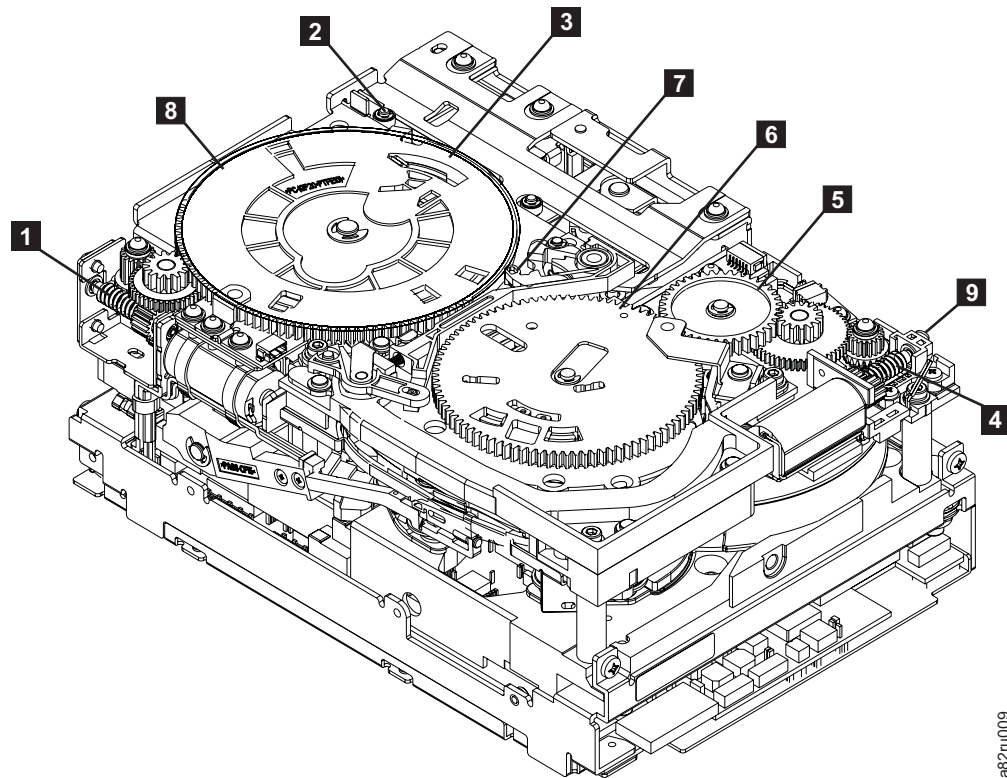
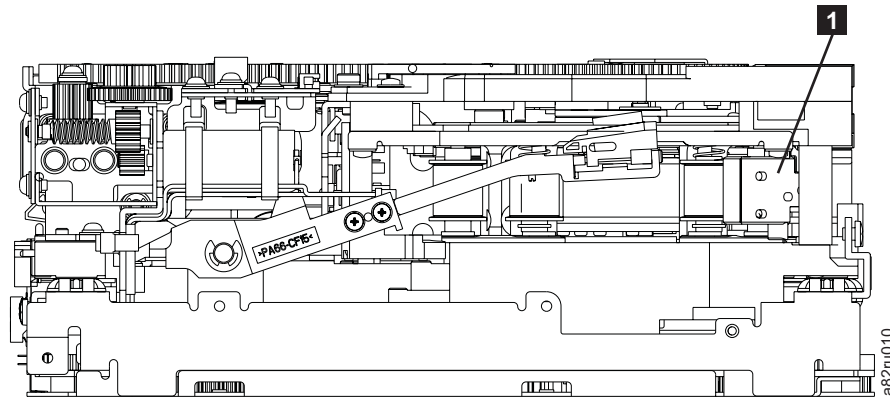

Figure 126. Drive with cover removed to reveal gear train.
Figure 127. Leader Block Assembly (LBA)
- ___ 3. Locate the threader motor worm gear (**4** in Figure 126) the rear of the drive. You can either:
- a. Use your finger to rotate the threader motor worm gear and slowly rotate the threader mechanism gear (**6** in Figure 126) clockwise; or
- b. Use a #1 flathead screwdriver to turn the threader worm gear (**9** in Figure 126) clockwise.
This rotates the threader motor worm gear (**4** in Figure 126) clockwise, drawing the tape leader block assembly (LBA) into the cartridge.
- ___ 4. As the LBA is secured in the cartridge, you should hear the LBA retention spring clips click into place. If you do not hear the click, continue rolling until the threader motor worm gear (**4** in Figure 126 on page 286) stops. The LBA is in the correct position.
- a. Loader mechanism gear (**8** in Figure 126 on page 286) nearest the front of the drive that actuates the cartridge loader mechanism
- b. Position of the rotator stub (**3** in Figure 126 on page 286).
- c. Front loader motor worm gear (**1** in Figure 126 on page 286). Rotating this gear allows the loader mechanism gear (**8** in Figure 126 on page 286) to turn.
- ___ 6. Rotate the loader motor worm gear (**1** in Figure 126 on page 286) to turn the loader mechanism gear (**8** in Figure 126 on page 286) counterclockwise. Continue turning until the rotator stub (**3** in Figure 126 on page 286) loses contact with the lever (**7** in Figure 126 on page 286). This releases the LBA leader pin.
- ___ 7. Rotate the threader motor worm gear (**4** in Figure 126 on page 286) to turn the threader mechanism gear (**6** in Figure 126 on page 286) counterclockwise. This moves the LBA out of the cartridge and past the read/write head. Stop this rotation when the LBA is near the tape guide roller nearest the rear of the drive (**1** in Figure 127).
- ___ 8. Continue rotating the loader motor worm gear (**1** in Figure 126 on page 286) until the rotator stub (**3** in Figure 126 on page 286) is positioned as shown. Notice that the rotator stub (**3** in Figure 126 on page 286) is nearly aligned with the cartridge loader tray guide bearing (**2** in Figure 126 on page 286).